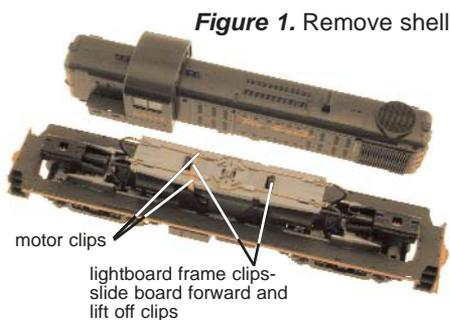

Figure 1. Remove shell
1. Carefully remove the locomotive's shell from the frame. Note the orientation for proper reinstallation. (*Figure 1*)
2. Carefully pull the brass motor clips from under the track power pickup wires on the lightboard. (*Figure 1*)